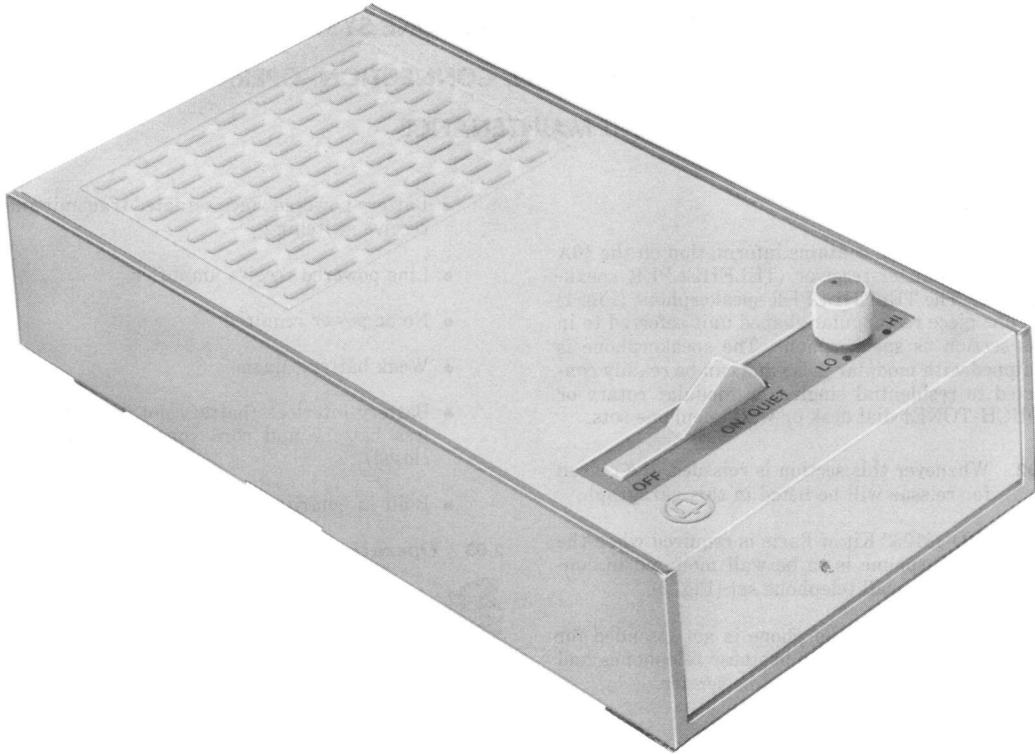

Fig. 1 — TELEHELPER Speakerphone
1.01 This section contains information on the 10A transmitter-receiver (TELEHELPER speakerphone). The TELEHELPER speakerphone (Fig. 1) is a one piece rectangular shaped unit referred to in this section as speakerphone. The speakerphone is equipped with modular jacks and can be readily connected to residential single line modular rotary or TOUCH-TONE† dial desk or wall telephone sets.